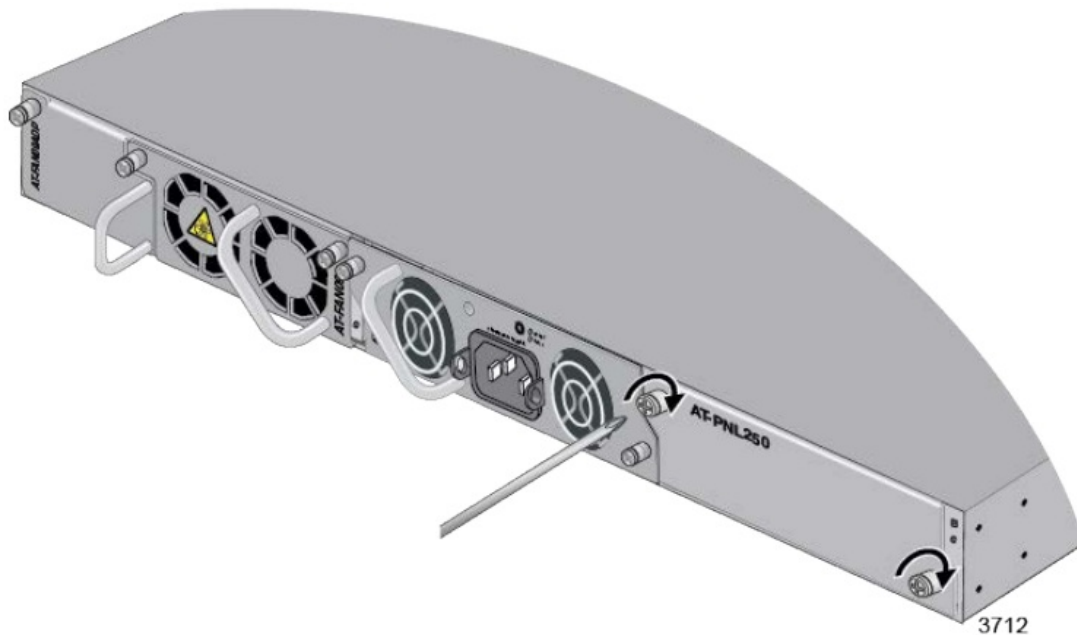

Figure 27. Tightening the Captive Screws on the Blank Panel for the Power Supply Slot
2. Tighten the two captive screws with a cross-head screwdriver to secure the panel to the switch. Refer to Figure 27 on page 75.